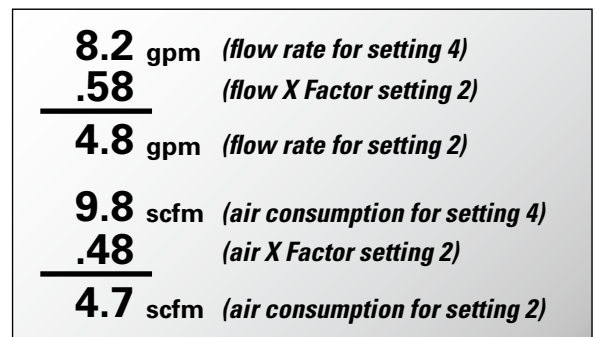

Figure 3
FIGURE 3 At completion of the stroke, the air valve again redirects air to the back side of diaphragm A, which starts diaphragm B on its exhaust stroke. As the pump reaches its original starting point, each diaphragm has gone through one exhaust and one discharge stroke. This constitutes one complete pumping cycle. The pump may take several cycles to completely prime depending on the conditions of the application.
Step 3: Calculating performance for specific EMS setting. Multiply the flow rate (8.2 gpm) obtained in Step 1 by the flow X Factor multiplier (0.58) in Step 2 to determine the flow rate at EMS setting 2. Multiply the air consumption (9.8 scfm) obtained in Step 1 by the air X Factor multiplier (0.48) in Step 2 to determine the air consumption at EMS setting 2 (Figure 3).